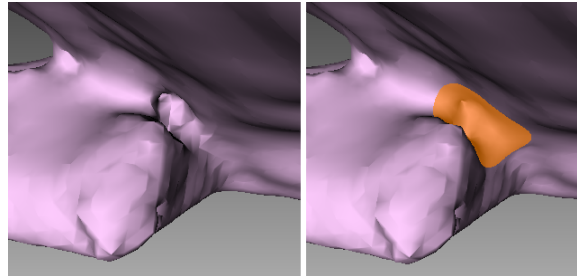

Figure 139: Before smoothing (left) and smoothing out a poorly captured area (right).
6. Hold *LMB* and paint the surface region in order to smooth it. The tool will smooth the affected areas (see Figure 139, right).